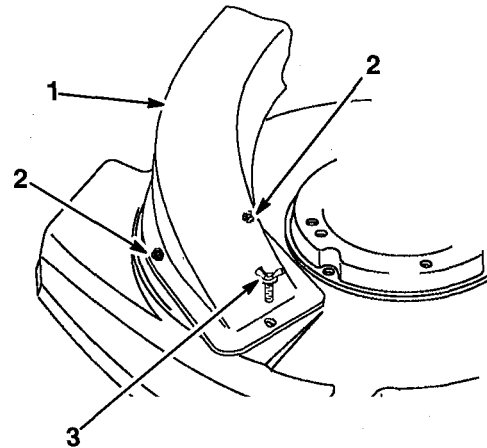

Figure 43
2. Place chute assembly into housing opening (Fig. 43).
5. Secure chute assembly to housing with a wing screw (Fig. 43).